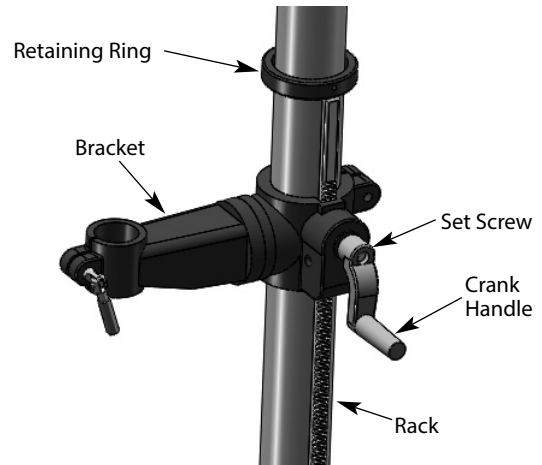

Figure 7 – Attach bracket, rack, retaining ring and crank handle 9680342C.
Refer to Figures 7 and 8.
- Slide table bracket assembly with rack over column. Place bottom end of rack inside beveled edge of column flange. See Figure 7.